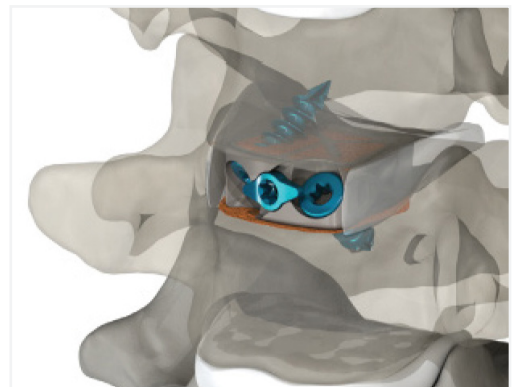

Figure 19
- ▶ Rotate the Locking Plate with the Straight Driver to approximately 90° clockwise to lock the screws into the Implant Assembly (Fig. 19). The wings of the Locking Plate will stop against the recess on the anterior face of the interbody.